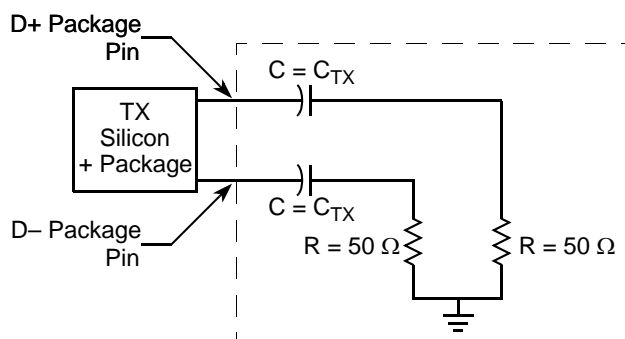

Figure 50. Compliance Test/Measurement Load
2. Specified at the measurement point into a timing and voltage compliance test load as shown in Figure 50 and measured over any 250 consecutive TX UIs. (Also see the transmitter compliance eye diagram shown in Figure 48.)
4. The transmitter input impedance shall result in a differential return loss greater than or equal to 12 dB and a common mode return loss greater than or equal to 6 dB over a frequency range of 50 MHz to 1.25 GHz. This input impedance requirement applies to all valid input levels. The reference impedance for return loss measurements is 50 Ω to ground for both the D+ and D– line (that is, as measured by a vector network analyzer with 50- Ω probes—see Figure 50). Note that the series capacitors C_{TX} is optional for the return loss measurement.
5. Measured between 20%–80% at transmitter package pins into a test load as shown in Figure 50 for both $V_{\text{TX-D+}}$ and $V_{\text{TX-D-}}$.
The TX eye diagram in Figure 48 is specified using the passive compliance/test measurement load (see Figure 50) in place of any real PCI Express interconnect +RX component.
The reference impedance for return loss measurements is 50. to ground for both the D+ and D– line (that is, as measured by a vector network analyzer with 50-Ω probes—see Figure 50). Note that the series capacitors, CTX, are optional for the return loss measurement.
The AC timing and voltage parameters must be verified at the measurement point, as specified within 0.2 inches of the package pins, into a test/measurement load shown in Figure 50.